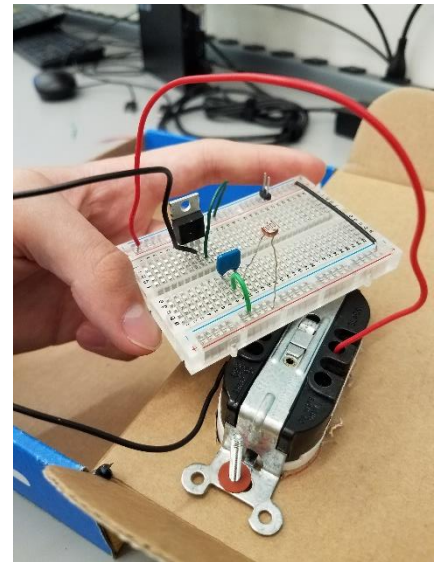

Figure 7: Outlet from box connected to breadboard
1. As in Figure 7, there is a wall outlet attached to your box and you will need to attach the wires from the wall outlet to the breadboard. The black/ground wire from the outlet in the box will connect with the middle “**drain**” terminal of the MOSFET. The red/power wire from the outlet will need to then be connected to the power rail of the breadboard.